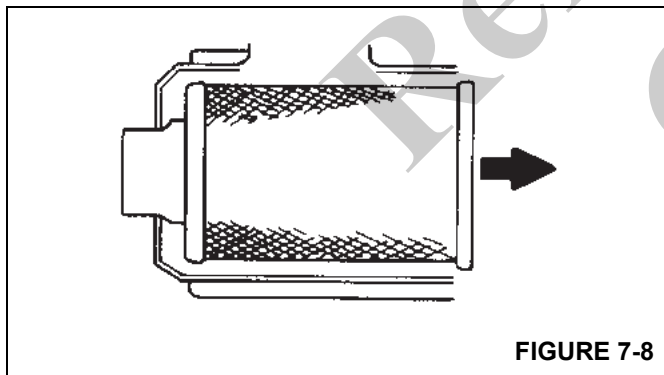

FIGURE 7-8
- b. **AVOID DISLODGING DUST FROM THE FILTER.** Gently pull the filter off the outlet tube and out of the housing. Avoid knocking the filter against the housing (Figure 7-8).